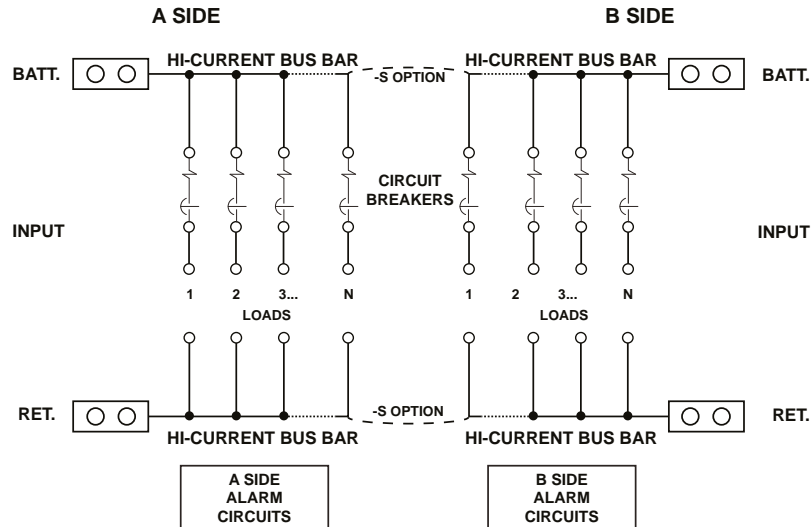

Figure 2. Block Diagram
6.1 Power Distribution Circuits. A simplified schematic diagram of the distribution panels is shown in Figure 2. The battery input to each load connects to a high-current copper bus bar from which the individual fuses or circuit breakers distribute power to the loads. The return input connects to a similar bus bar to which the individual loads terminate. The A and B loads are totally independent and isolated with the exception of models incorporating the 'S' option.